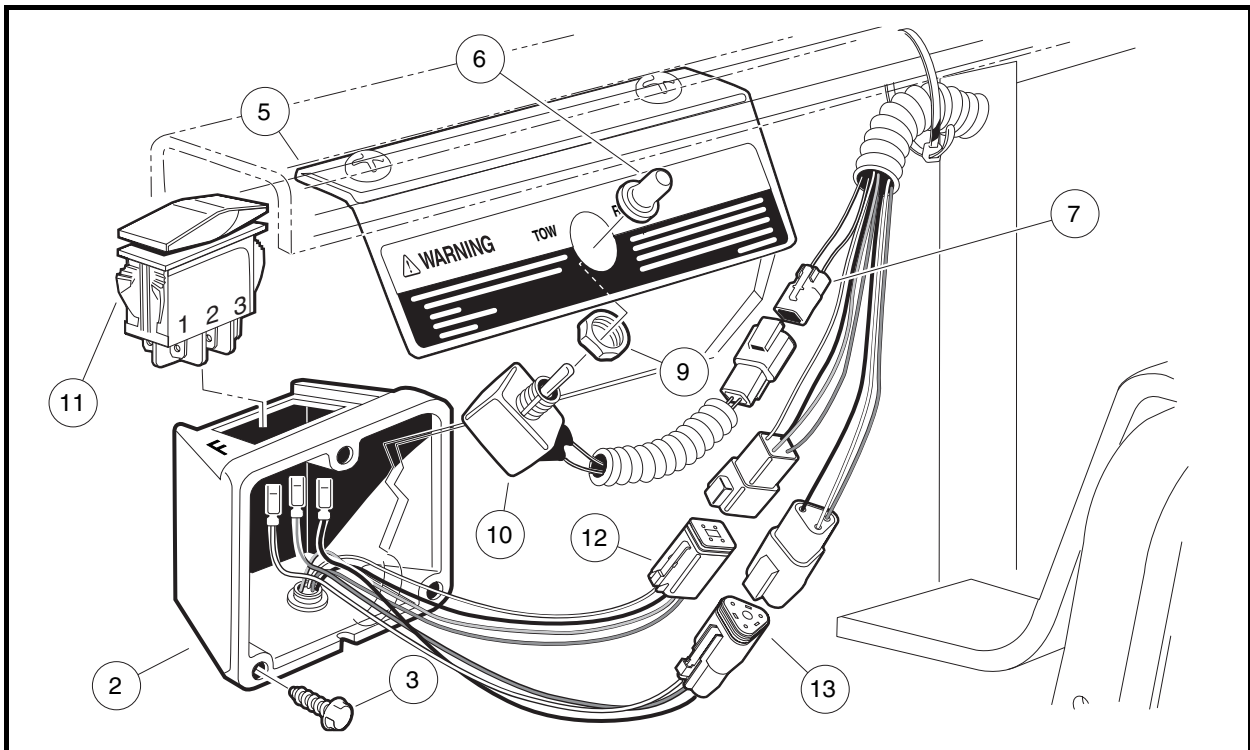

Figure 19-3 Tow/Run Switch and Forward/Reverse Rocker Switch
1. Remove three self-tapping screws (3) that hold Forward/Reverse rocker switch case (2) to body (**Figure 19-3, Page 19-3**).
3. Press the locking tabs (11) on each end of switch and push switch out of case.
1. Press the locking tabs (11) on each end of the rocker switch and push switch into case (**Figure 19-3, Page 19-3**).
3. Install the three self-tapping screws (3) that hold the Forward/Reverse rocker switch case (2) to the body. Tighten to 20 in-lb (2.3 N·m).
2. Remove Tow/Run switch boot/hex nut (6) (**Figure 19-3, Page 19-3**).
3. Remove Tow/Run switch (10) and nut (9) from bracket (5).
4. Disconnect the two-pin connector (7) and remove switch.
1. Installation is reverse of removal. Make sure groove on switch is aligned with tang on bracket. Tighten Tow/Run switch boot/hex nut (6) to 16 in-lb (1.8 N·m) (**Figure 19-3, Page 19-3**).